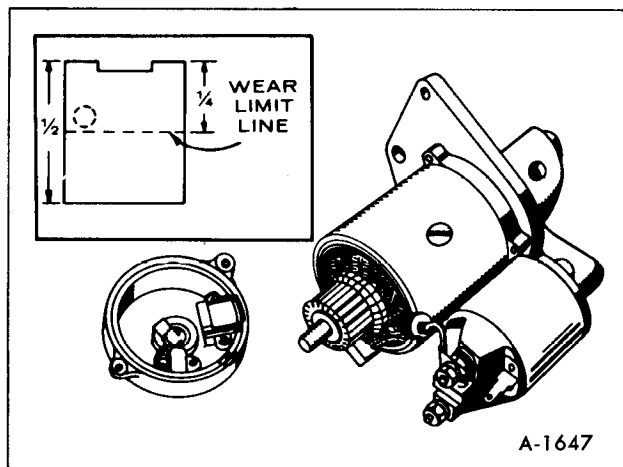

Figure 59—Brush Replacement
**BRUSH REPLACEMENT:** Brushes that are worn out to the wear limit line should be replaced as shown in Figure 59. Brushes can be replaced after removing the rear bracket.